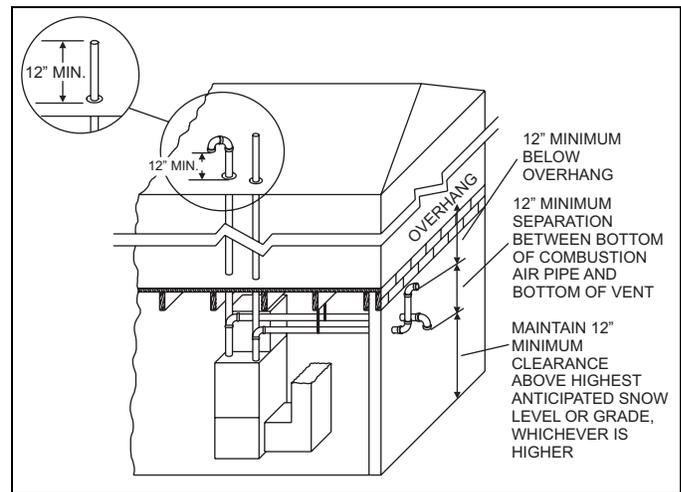

FIGURE 16: Termination Configuration - 2 Pipe Basement
7. Sealed combustion air systems must be installed so the vent and the combustion air pipes terminate in the same atmospheric zone. Refer to Figures 16 and 17.
6. Sealed combustion air systems must be installed so the vent and the combustion air pipes terminate in the same atmospheric zone. Refer to Figures 16 and 17.
The combustion air side of the two-pipe configuration shown in Figure 20 can be installed so the combustion air pipe terminates as described in outdoor combustion air or ventilated combustion air sections in these instructions. Follow the instructions for outdoor combustion air or ventilated combustion air and the instructions for installing the vent system with the vent terminating as shown in Figures 16 and 17. The two-pipe system must have a separate combustion air pipe and a separate vent pipe for each furnace. Under NO circumstances can the two combustion air or vent pipes be tied together. The combustion air and vent pipes must terminate in the same atmospheric zone.